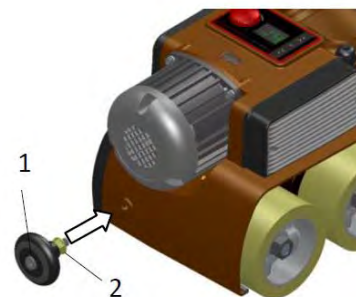

Fig. 21: Mounting the handle
Step 6: Mount the handle on the feed unit (Fig. 21). Do not tighten too much, the handle should rotating.